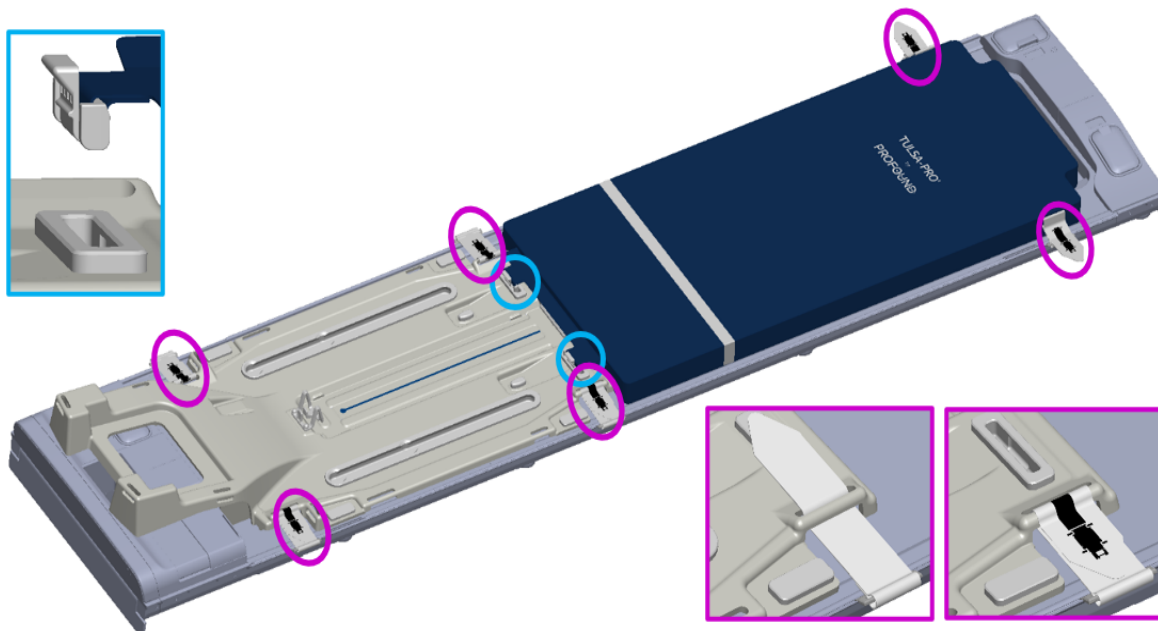

Figure 2: Securing the base plate and patient pad to the MRI bed
1. **MRI Technologist** Attach the base plate onto the foot end of the MRI table and secure using the four base plate straps (*Figure 2*, your configuration might not match exactly as shown). The feet of the base plate should fit in the rails of the MRI table and not move around when in position.